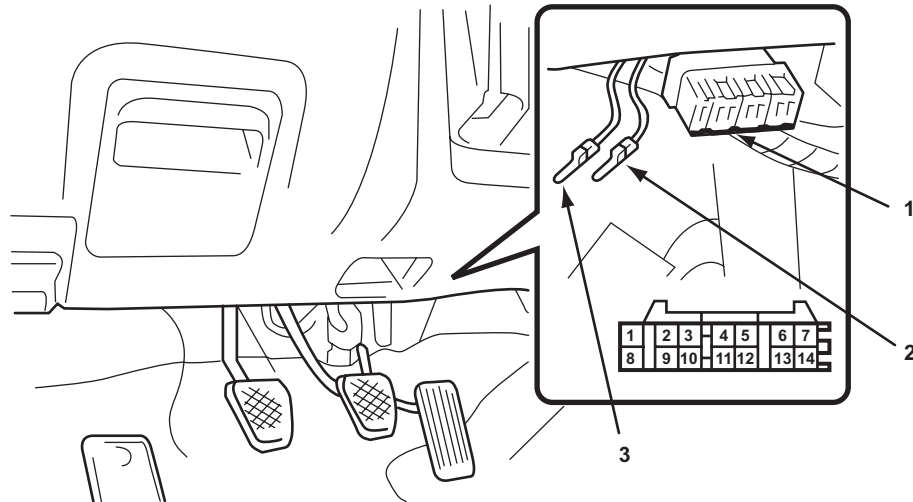

Figure 15-59 2005 Forester and 2005 Impreza SRS Diagnostic connector (gray)
- 2005 Forester (Figure 15-59)
- 2005 Impreza (Figure 15-59)
1. With the key on and the engine off, install either diagnostic terminal into pin 2 or the airbag (SRS) diagnostic connector. The connector is located in the left lower dash panel area (Figure 15-59).
1. With the key on and the engine off, install either diagnostic terminal into pin 2 of the airbag (SRS) diagnostic connector (Figure 15-59).